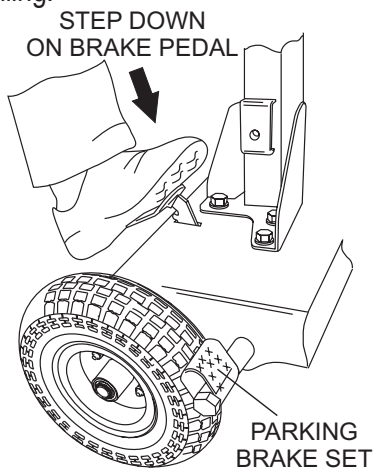

Figure 8. Parking Brake (Set Position)
2. To apply the parking brake (Figure 8), step on the brake pedal and pull back on the T-handle. This will lock the rear wheels. For additional safety use chock blocks to prevent rolling.